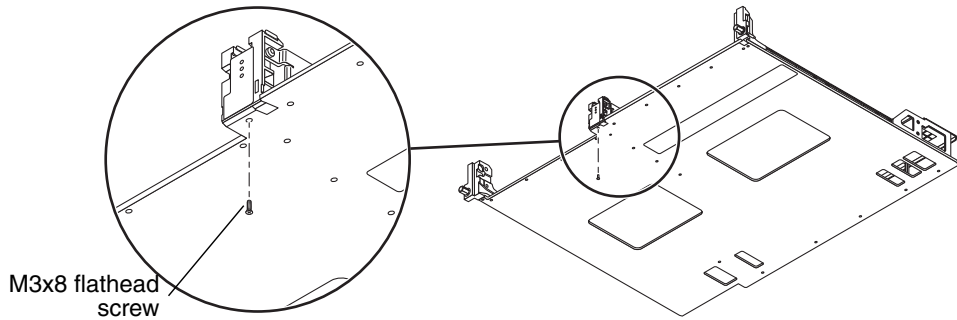

FIGURE 10-4 Securing the Center Guide Bracket After the T Rail Guide Removal
4. Install one (1) M3x8 flathead screw from the FRU package to secure the center guide bracket to the new carrier plate (FIGURE 10-4).